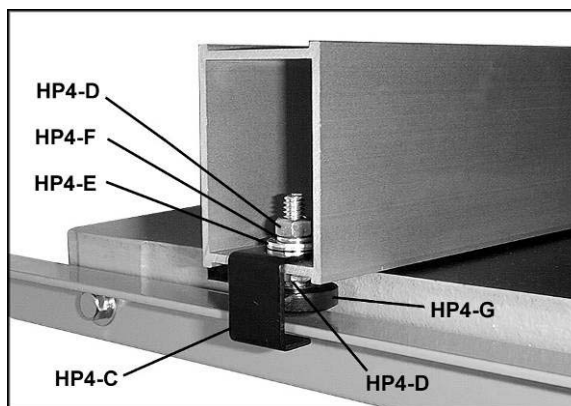

Figure 29
- At the rear of the fence, thread a *1/4" hex nut* (HP4-D, Figure 29) onto the *sliding pad* (HP4-G) and insert the sliding pad through the fence and *rear hook* (HP4-C). Secure in place using a *1/4" flat washer* (HP4-E), *1/4" lock washer* (HP4-F) and a *1/4" hex nut* (HP4-D). The rear hook should be adjusted so that it overlaps the rear rail by approximately 1/8".
Refer to Figures 29 through 31.
4. Adjust the height of the sliding pad at the rear of the fence (Figure 29) if further adjustment is needed to even the gap along the length of the fence.